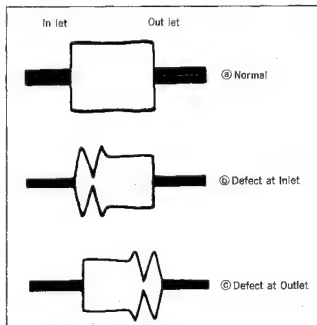

Fig. 36
- 5) Check that a RF waveform is flat at the inlet and outlet of the oscilloscope (Fig. 36 ㉔).
When the RF waveform is not flat at the inlet/outlet; See Fig. 36 ㉕ and ㉖.